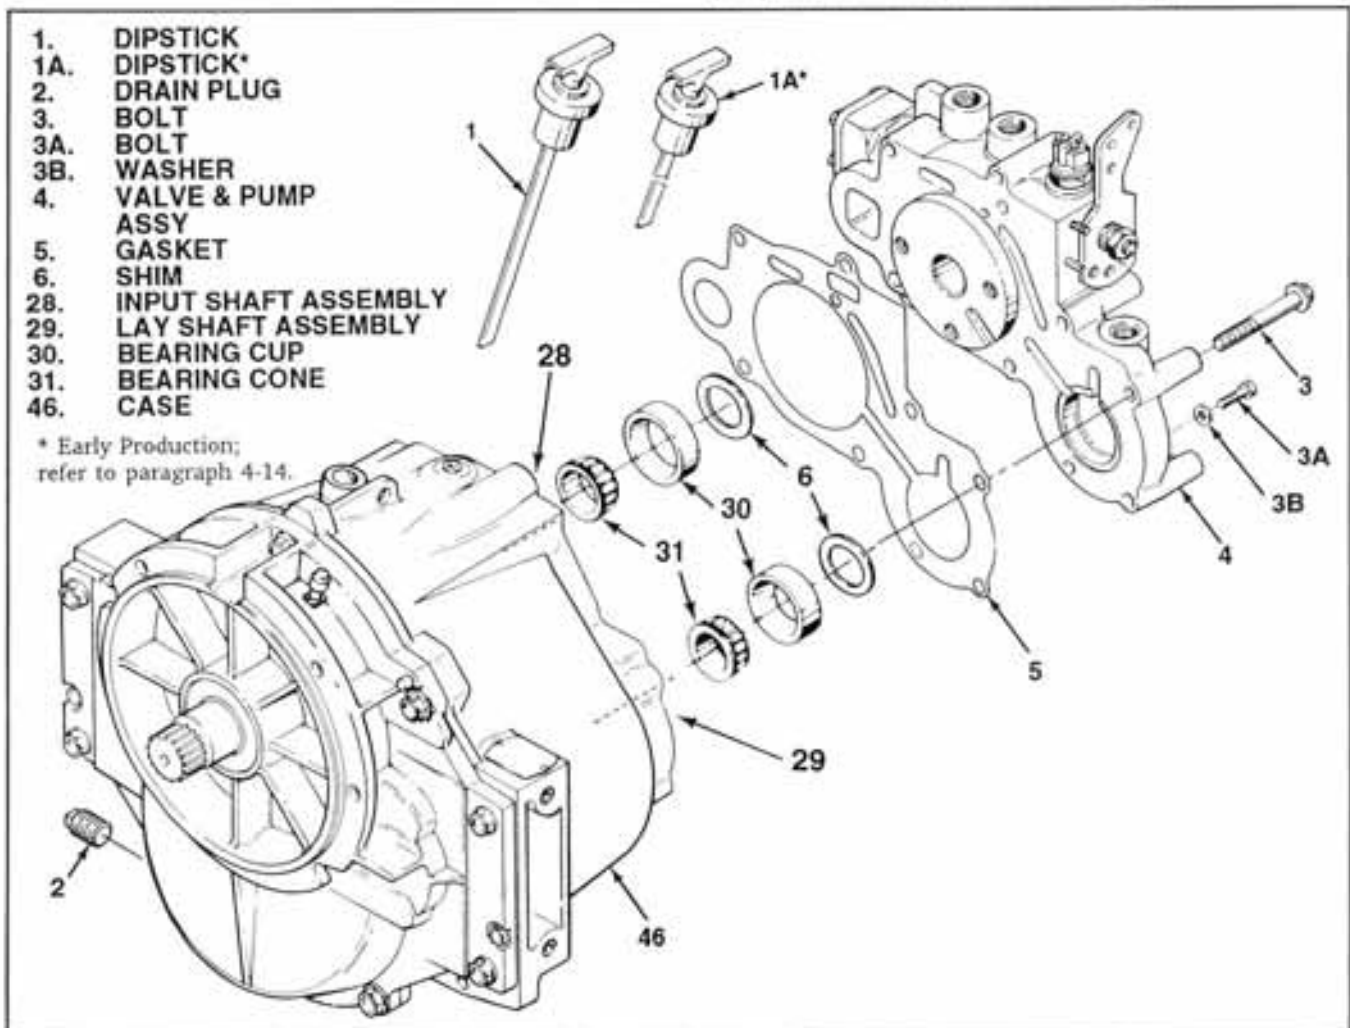

Figure 3-1. Valve and Pump Housing Assembly
2-19. VALVE AND PUMP ASSEMBLY REPLACEMENT WITH TRANSMISSION MOUNTED ON ENGINE. If trouble is isolated to the control valve and pump assembly and there is no other reason to remove the transmission from the boat, it is possible to replace the valve and pump assembly with the transmission installed in the boat. However, when removing the valve and pump assembly (see figure 3-1), extreme care must be taken to capture and tag the exact number of shims (6) used at each location. If shims drop out or become lost or intermixed for any other reason, abandon this replacement procedure, remove the transmission from the boat and proceed as specified in Sections 3 through 5 in this manual.
2-20. VALVE AND PUMP ASSEMBLY REMOVAL (see figure 3-1) Remove valve and pump assembly as follows:
With the transmission held in a suitable fixture and in its approximate installed position, begin disassembly as follows (see figure 3-1):